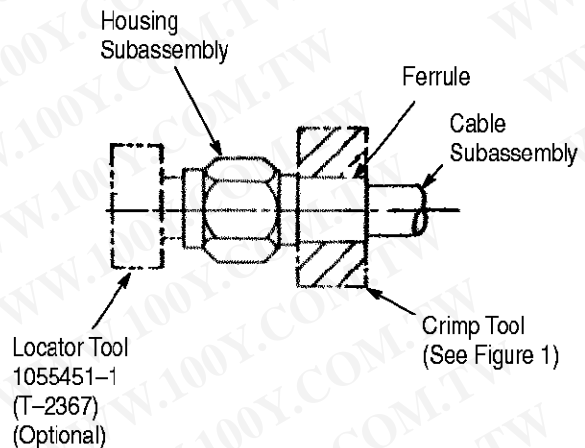

Figure 4
**2.3. Crimping the Connector to Cable** (Figure 4)